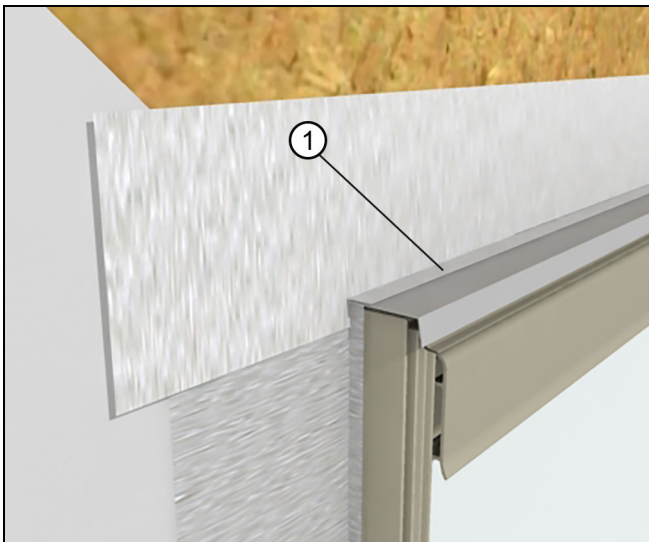

Figure 43
4. Install a layer of flashing over the vertical leg of the rigid head flash and lapped onto the horizontal leg. The flashing should extend past the jamb flashing installed earlier. See Figure 43.